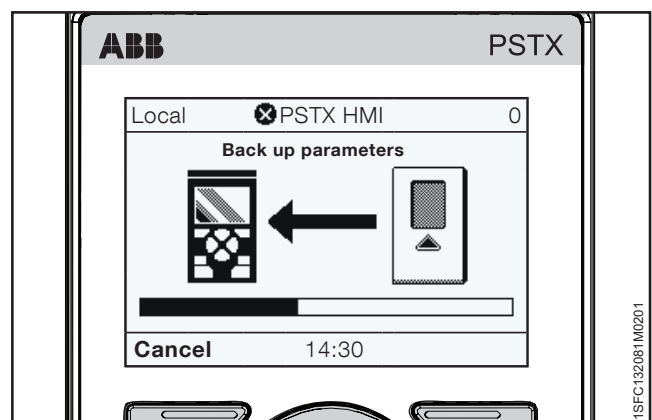

Figure 6.32
3. The download of parameters shows as in **Figure 6.32**. The name of the backup file shows as the day, month and year it was created.